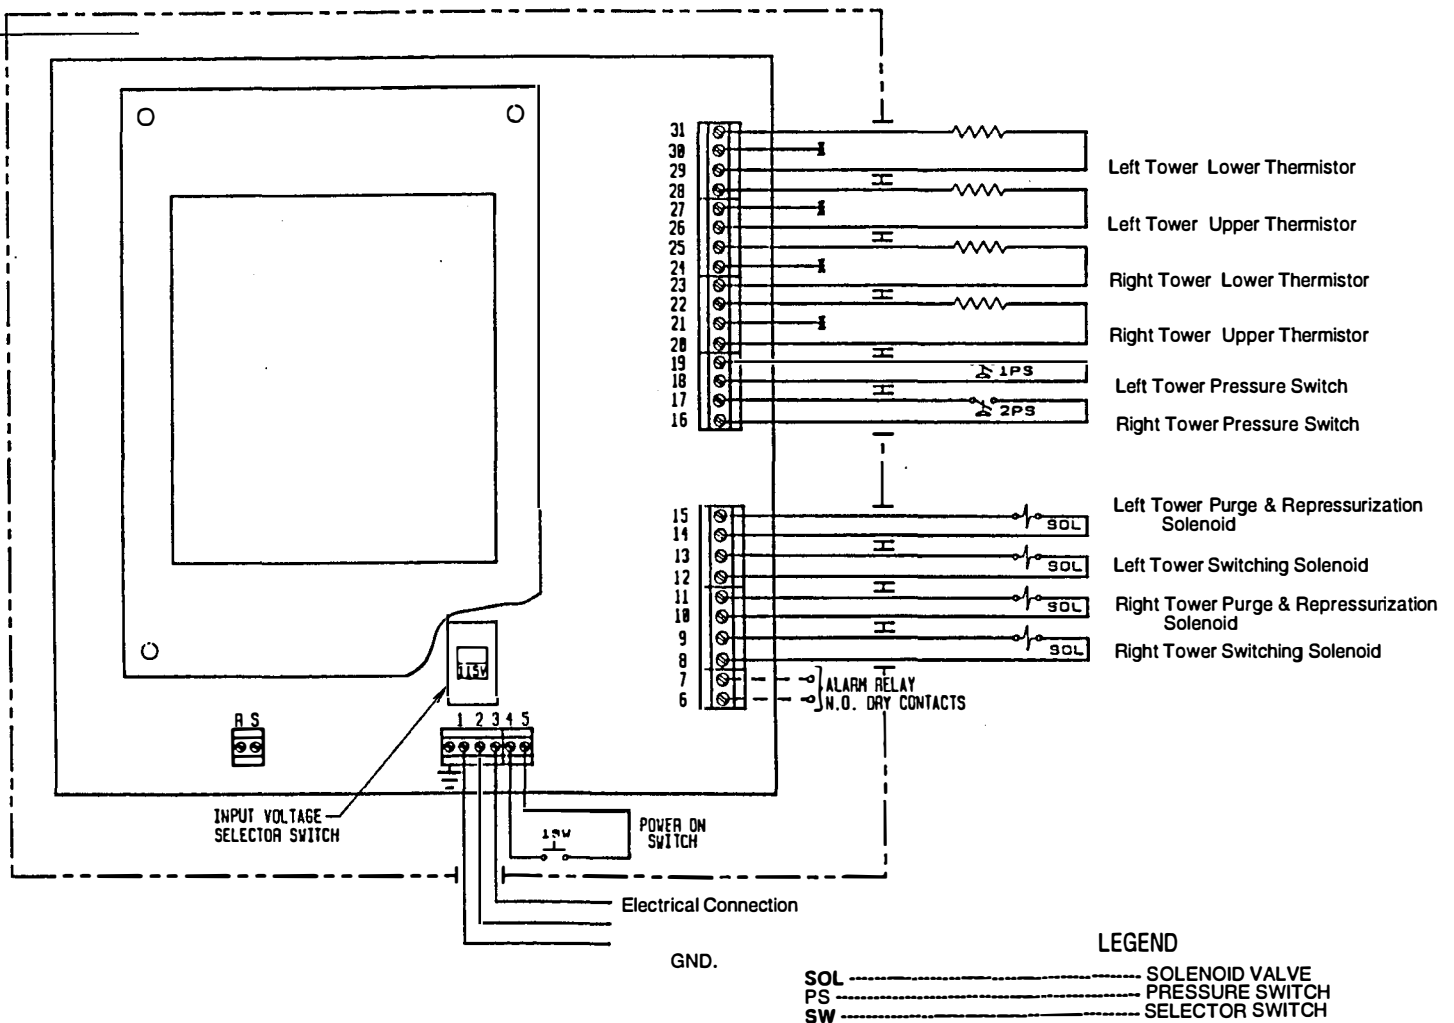

FIGURE 2F. ELECTRICAL SCHEMATIC (DRYERS WITH AUTOMATIC PURGE SAVING SYSTEM)
2.5.1.2 Automatic Purge Saving System (Refer to Figure 2F)